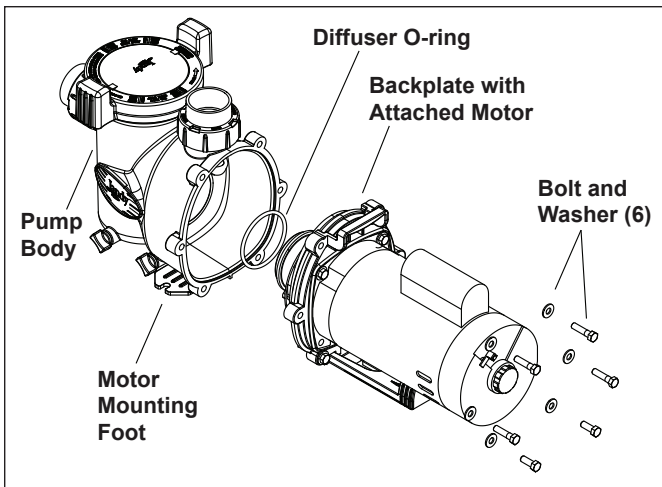

Figure 1. Removal of Backplate with Motor
4. Use a 9/16" wrench to loosen the six (6) bolts securing the motor with attached backplate to the body pump. See Figure 1.
5. Pull the motor with attached backplate out of the pump body. Remove the diffuser o-ring from the pump body, as shown in Figure 1.